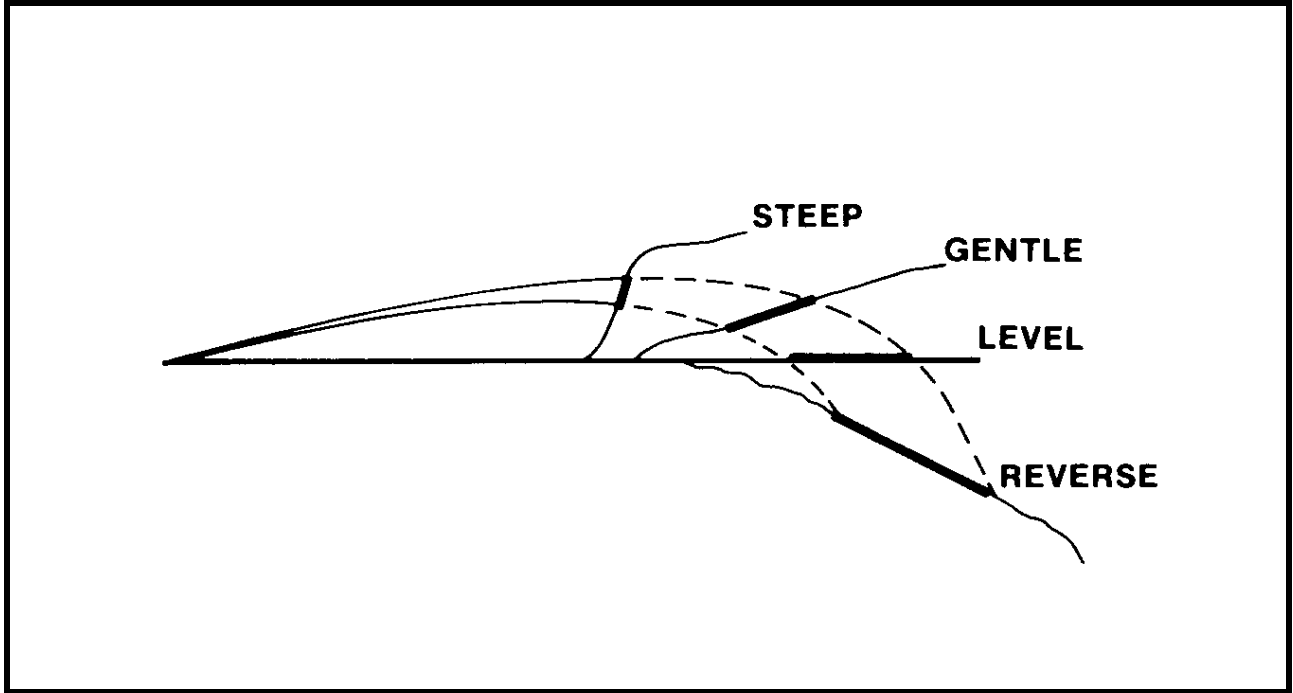

Figure 2-7 Effect of Ground on the Beaten Zone
- a. **Steep Hillside.** On a steep hillside the beaten zone is the same as the cone of fire and therefore at a minimum (see Figure 2-7).